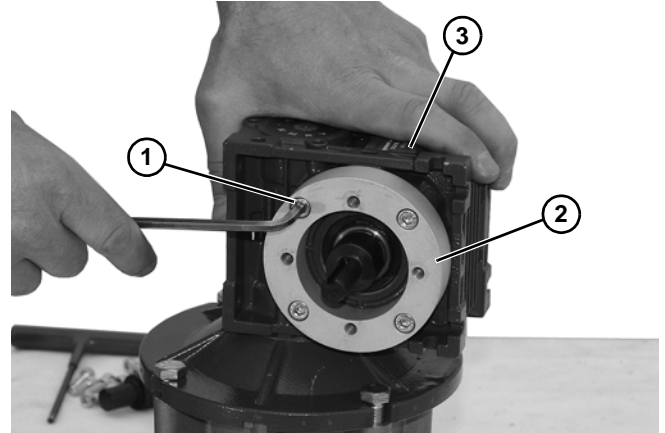

Figure 22
1. Loosen four (4) socket head screws (**Figure 22, item 1**) and detach spacer (**Figure 22, item 2**) from gear reducer (**Figure 22, item 3**).
10. Install spacer (Figure 22, item 2) onto gear reducer (Figure 22, item 3) with four (4) socket head screws (Figure 22, item 1).